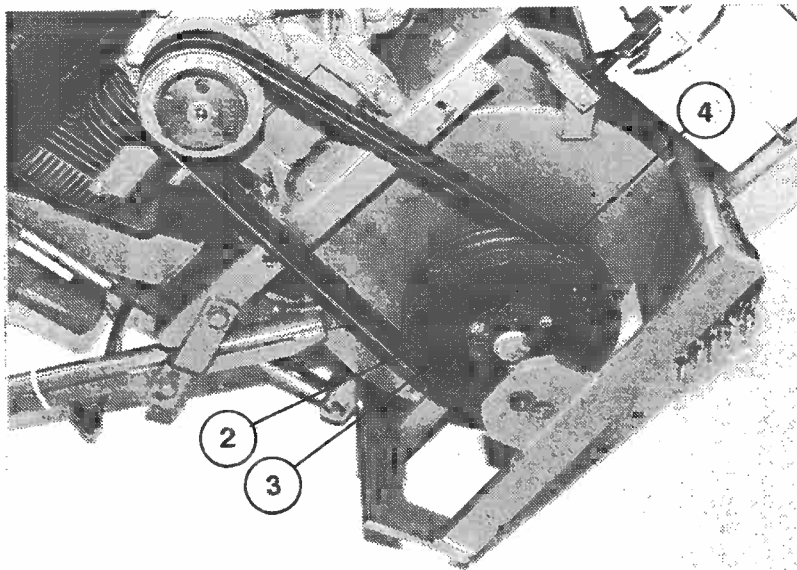

FIGURE 14
5. Remove lower sheave (See Figure 14). The sheave [2] has a built in puller. Loosen and remove the three mounting cap screws [3]. Insert these same cap screws in the threaded jack-screw holes. Starting with the screw farthest from the bushing saw slot; tighten all screws alternately and progressively to separate sheave from bushing.